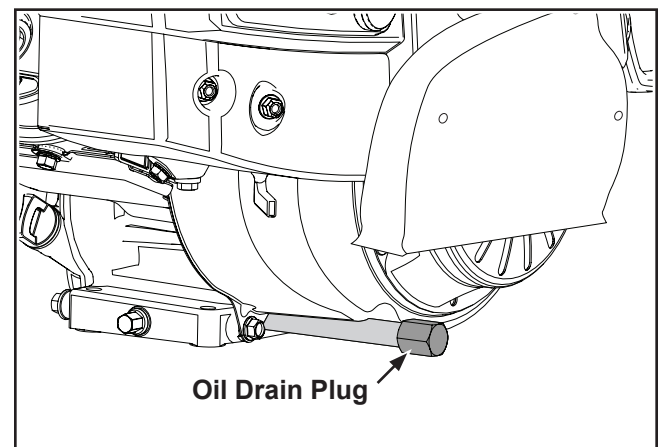

Figure 28. Oil Drain Plug Location.
3. Reinstall the oil drain plug and tighten to 9-13.5 N·m (80-120 in. lb.). See Figure 28.